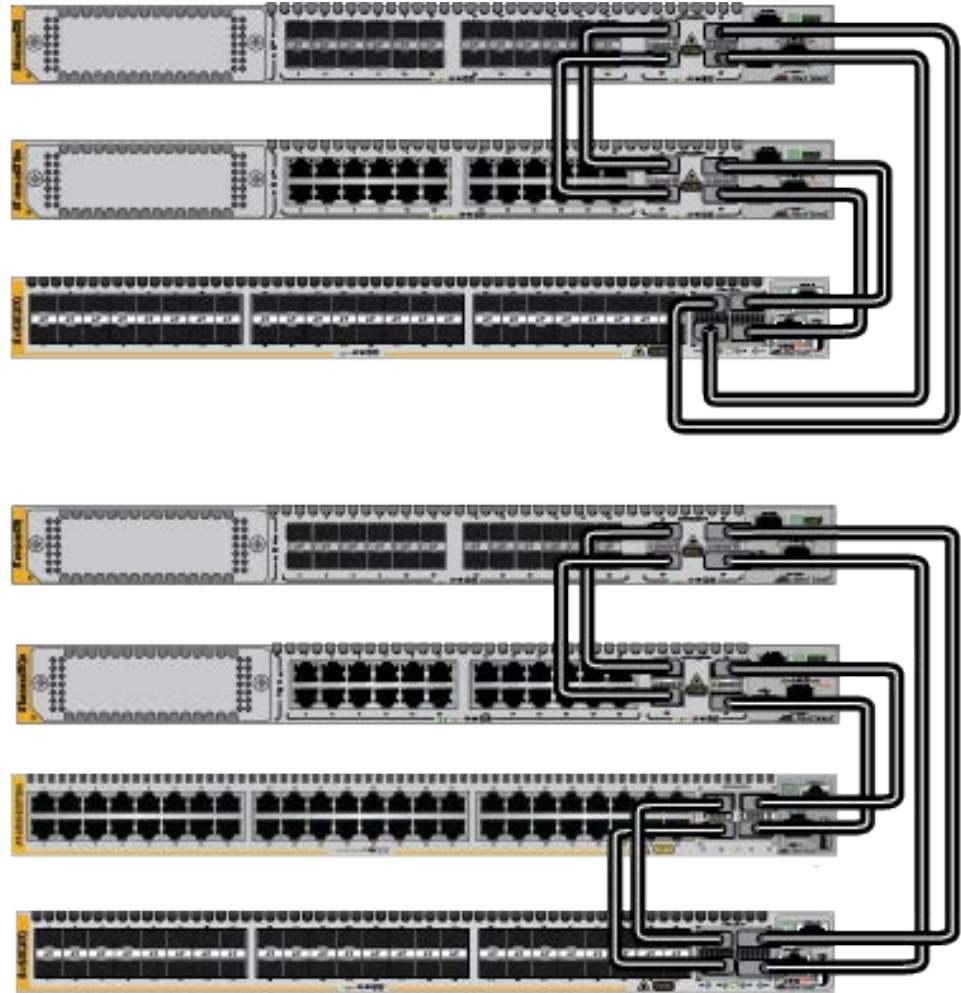

Figure 36. Stack Trunk Examples of Three or Four Switches with 40Gbps Links
- ❑ To build stacks of three or more switches, Allied Telesis recommends using all four ports. Examples are shown in Figure 36. Please note how the top and bottom switches are connected to form a loop in the trunk.